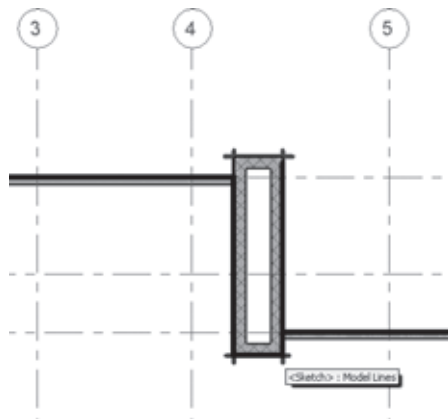

Figure 4.55
6. Select pairs of lines to trim. The first pick is any line you want to trim. The second pick is the line you want to trim to; you'll see a preview of the result, as shown in Figure 4.55.